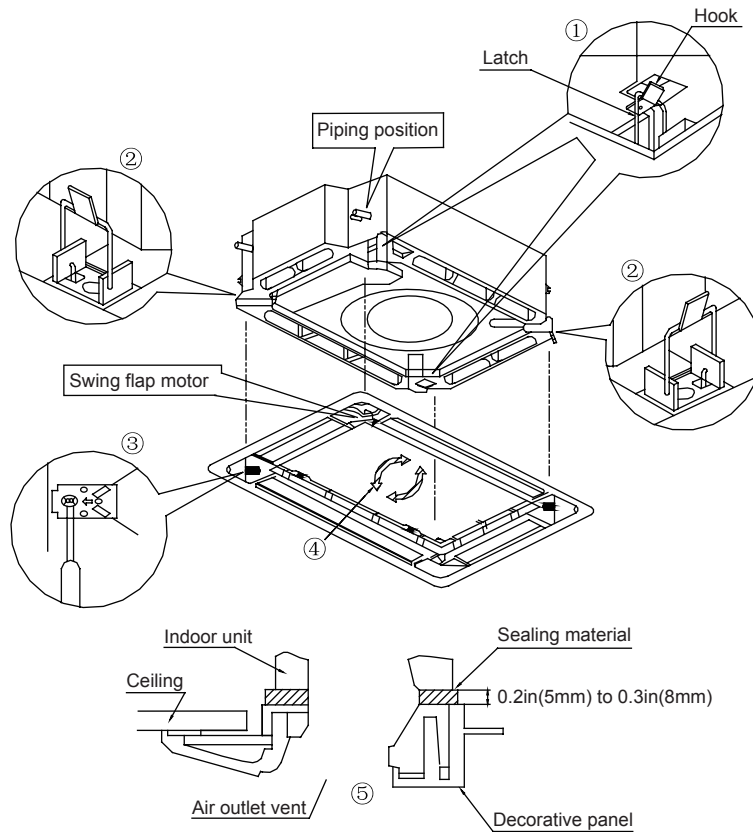

Fig.13
1. Set the panel to the indoor unit body by matching the position of the swing flap motor of the panel to the piping position of the panel to the piping position of the indoor unit as shown by Fig.13.
④ Adjust the panel by turning it toward the direction pointed by the arrow as shown in Fig.13, so that the adjust board connects with the ceiling well.
⑤ Tighten the screws until the thickness of the sealing material between panel and indoor unit is reduced to 0.2 - 0.3 inches (5-8 mm).